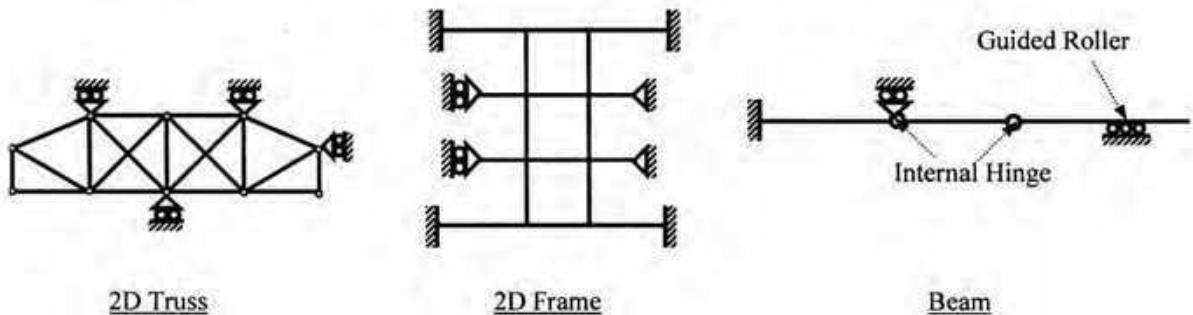

Fig. 9
13. Determine the size of flexibility matrix for the structures shown in Fig. 9. Also convert them to statically determinate structures to be used in 'Case 0' of Flexibility Method.